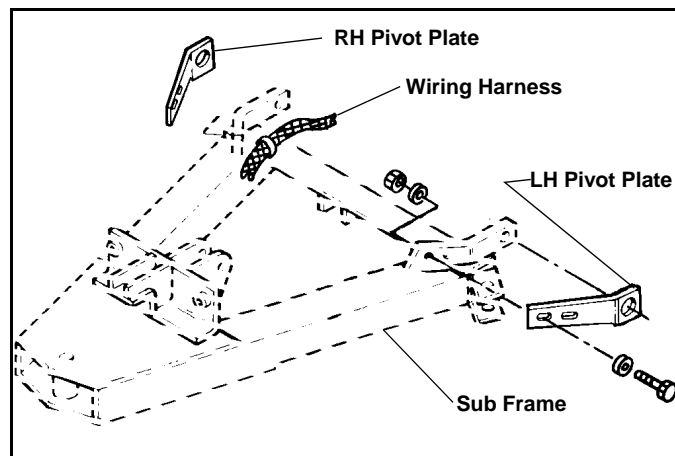

Figure 1
3. Bolt Pivot Plate (#18)RH to right side Mounting Lug on Main Frame. Use two (2) 3/8" x 1-3/4" Capscrew (#23), with two (2) 3/8" Washers on each Capscrew and Nylock Nuts provided.(See Figure 1)
4. Bolt Pivot Plate (#19)LH to left side Mounting Lug on Main Frame. Use two (2) 3/8" x 1-3/4" Capscrew (#23), with two (2) 3/8" Washers on each Capscrew and Nylock Nuts provided. (See Figure 1)
NOTE: Flat side of Pivot Plate must be up. Do not tighten nuts at this time. (See Figure 1)
NOTE: Location of Wiring Harness Clip on Rear Bolt. (See Figure 1)